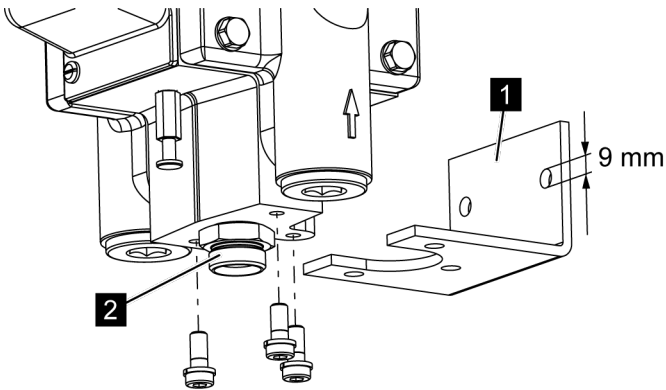

Fig. 3: Installation
1. ➤ Fit the bracket (Fig. 3/1) to a wall or supporting construction with the appropriate screw so that the material suction connection (Fig. 3/2) faces vertically downwards after assembly.